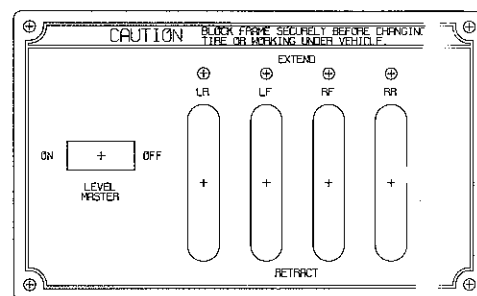

Figure 2-20. Leveling Jack Controls
Overall system operation is controlled and monitored at the leveling jack controls, while each jack is independently operated by one of four respective **EXTEND-RETRACT** levers located on the floor to the left of the driver, figure 2-20. A dash indicator and a buzzer (when ignition switch is on) provide visual and audible signals to show that the associated leveling jacks are not stowed to a safe travel position.
- ① Set **LEVEL MASTER** switch (see figure 2-20) to **ON** position. Note that the **LEVEL WARNING** indicator will light. **LEVEL SYSTEM** indicators **LF**, **RF**, **LR** and **RR** are lit only when the respective corner of the coach is low.
- ② De-pressurize the tag axle by setting **TAG DUMP** switch to **DUMP**; de-pressurize front and rear axle by setting associated **SUSP. DUMP** switch to **DUMP**.